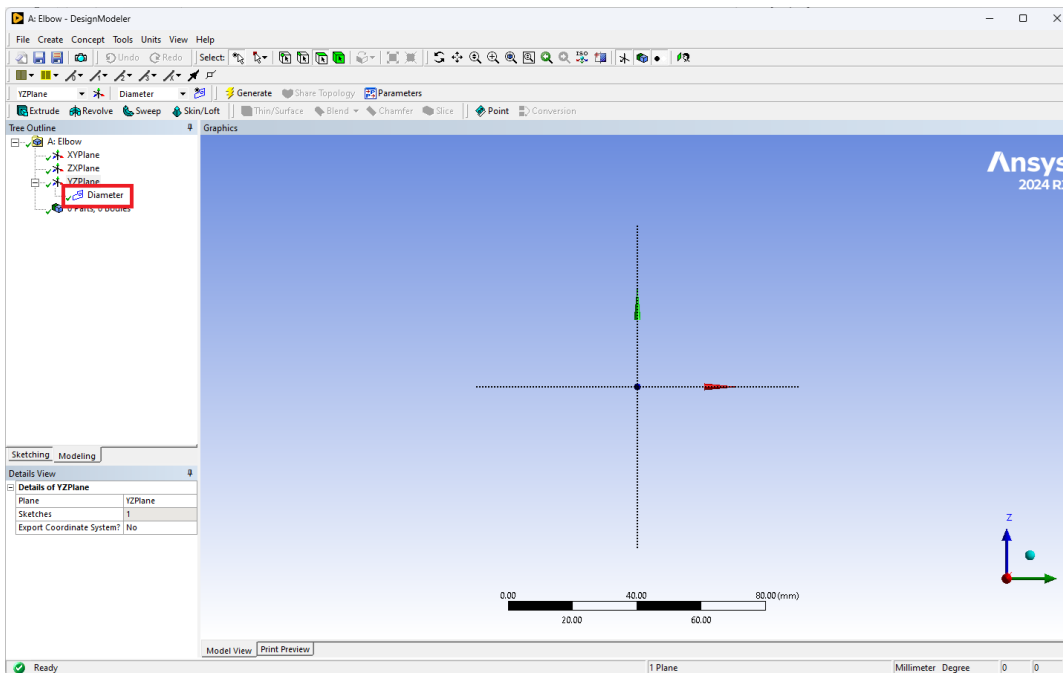

Figure 11: Generation of the sketch *Diameter*.
- Select the *YZ* plane in the left tree and, with the right mouse button, select the *Look at* option to move the view on the plane itself. Then click on the *New Sketch* icon () , located at the top, and rename the sketch (right mouse button) to *Diameter*. The DM window will appear as in figure 11.